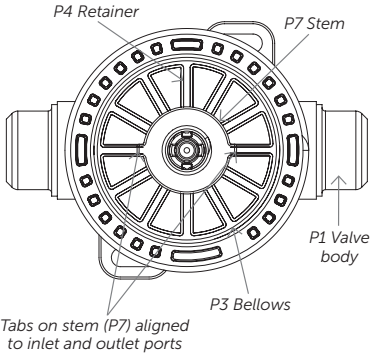

Figure 3.
- a. Align the bosses on the stem (P7) with the slots in the top of the body (P1) so that the bosses are in line with the inlet and outlet ports of the body (see Figure 3).